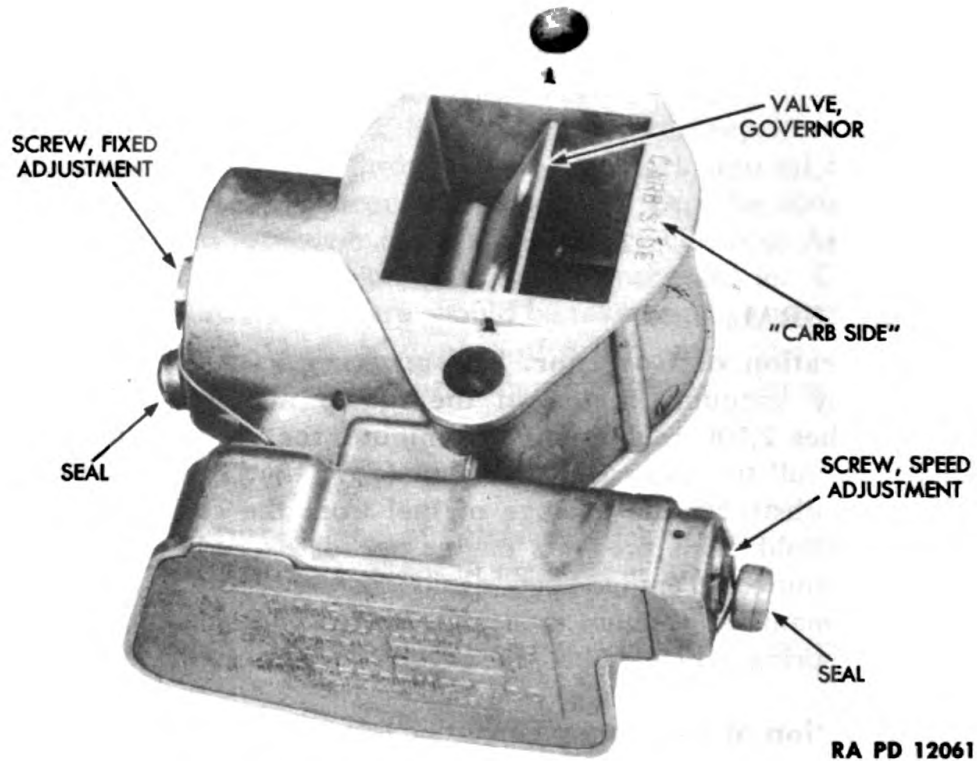
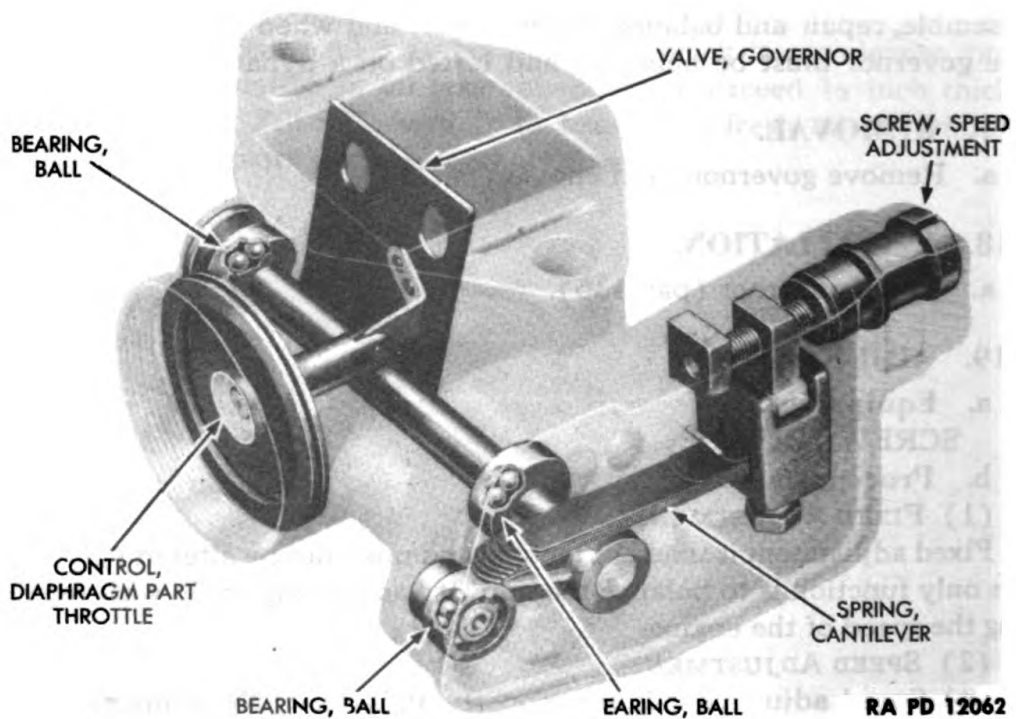

Figure 148—Construction of Governor
Figure 149—Construction of Governor
a. Operation of Governor. The governor is of the velocity type, actuated by vacuum created in the intake manifold. When engine speed reaches 2,400 revolutions per minute, the vacuum increases sufficiently to pull the governor valve shut (fig. 148). The closed governor valve thus obstructs the passage of fuel from the carburetor into the intake manifold. This prevents engine speeds exceeding 2,400 revolutions per minute. At engine speeds under 2,400 revolutions per minute, the intake manifold vacuum is insufficient to overcome the force of the cantilever spring, which holds the governor valve in the open position (fig. 149).
b. Location of Governor. Governor is mounted between carburetor and intake manifold on studs to which carburetor is secured (fig. 3). To simplify installation, the side of the governor which adjoins the carburetor is marked "CARB SIDE" (fig. 148).
Fixed adjustment is made at factory and must not be altered (fig. 148). Its only function is to balance the unit. It has nothing to do with regulating the speed of the engine.
(a) Speed adjustment is set properly at factory. No adjustment will be necessary unless seal is broken and adjustment is changed (fig. 148).
(c) If tachometer reads over 2,400 revolutions per minute, turn adjustment screw on governor counterclockwise until tachometer registers 2,400 revolutions per minute (fig. 148).
(d) If tachometer registers less than 2,400 revolutions per minute, turn adjustment screw on governor clockwise until tachometer shows 2,400 revolutions per minute (fig. 148).
(e) Line up seal wire hole in adjustment screw with seal wire hole in governor case. Insert the wire of a new seal through holes and seal the adjusting screw of the governor (fig. 148).